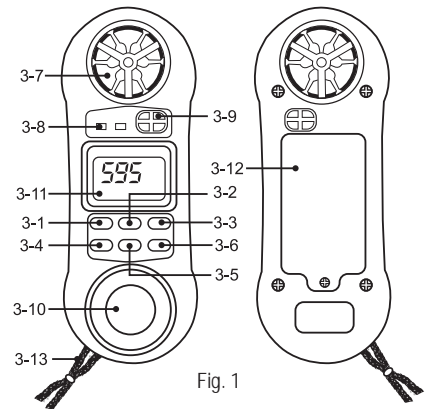

Fig. 1
- 1) Power on the instrument by pressing the "Power Button" (3-1, Fig. 1).
- 2) Select the Anemometer function by pressing "Function Button" (3-6, Fig. 1).
- 3) Press the "Unit/Zero Button" (3-4, Fig. 1) to select unit that you want and then face the "Air Flow Sensor" (3-7, Fig. 1) to the source of wind.
- 2) Plug a type-K thermocouple probe in the "Thermocouple Input Socket" (3-8, Fig. 1).
- 3) Select the Temperature function by pressing "Function Button" (3-6, Fig. 1).
- 2) Select the Relative Humidity function by pressing "Function Button" (3-6, Fig. 1).
- 2) Select the Light Measurement function by pressing the "Function Button" (3-6, Fig. 1) until the light value is displayed. The light display digits are oriented 180° from the other function displays for easy exposure and output reading of the light sensor.
- 3) Press the "Lux/Fc Button" (3-5, Fig. 1) to select measuring unit "Lux" or "Fc".
- \* For best results zero the light sensor prior to use in a dark environment. Placing the light sensor end of the meter under a desktop or flat surface so as to block any light can accomplish this. Then press the "Unit/Zero Button" (3-4, Fig. 1) to set the meter indication to zero.
Whenever press the "Hold Button (3-2, Fig. 1)" will freeze the current reading value with a "HOLD" symbol on the display.
- 1) The Data Record function records & displays the maximum and minimum reading values. Start the Data Record function by pressing the "Max./Min. Button" (3-3, Fig. 1) once. There will be a "REC" symbol on the display.
- (a) Press the "Max./Min. Button" (3-3, Fig. 1) once and the Max symbol along with the maximum value will appear on the display.
- (d) Clear the Max./Min. value recorded by pressing the "Hold Button" (3-2, Fig. 1) once. Previous recorded Max./Min. value will be given up and then revert to the REC. function keep on recording.
- 2) Open the "Battery Compartment / Cover" (3-12, Fig. 1) and remove the battery.